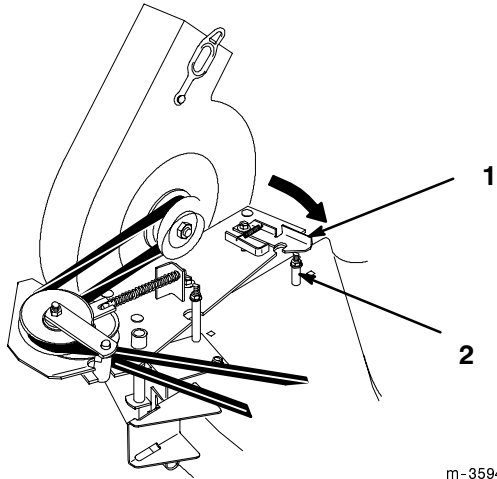

Figure 14
6. With the belt installed, swing the blower toward the mower until the blower latch locks over the pin at the back of the mower (Fig. 14).